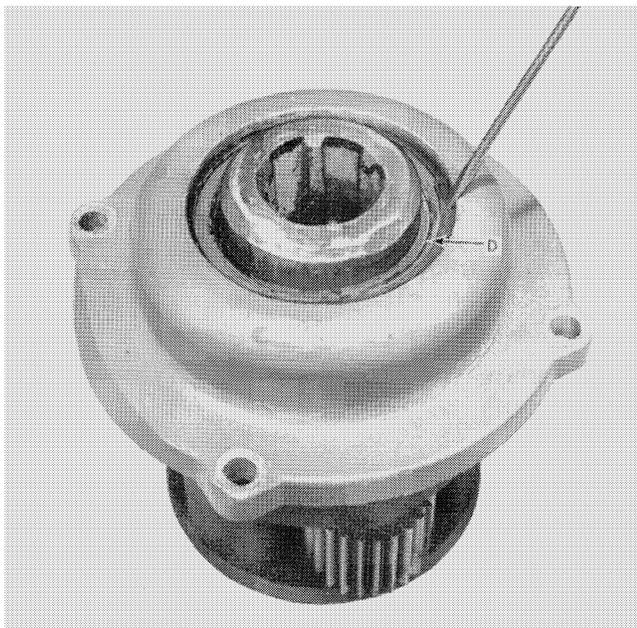

FIGURE 17
4. Remove shaft seal, D, Figure 17. **NOTE: Seal will be damaged and must be replaced.**